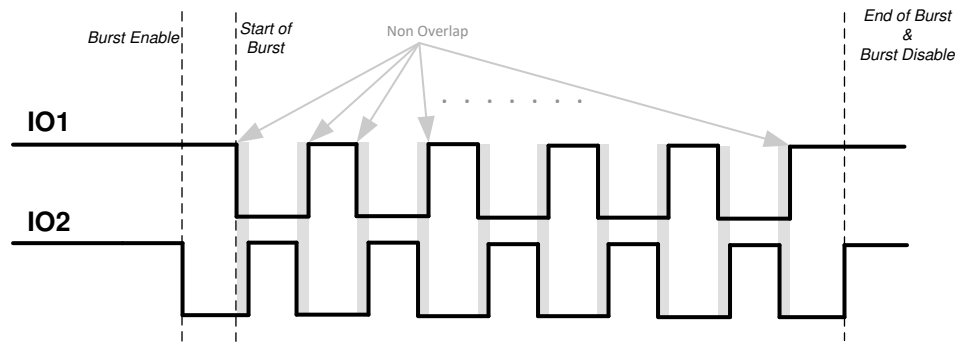

Figure 7-3. IO_MODE 2 Description
- **IO_MODE = 2:** In this mode both IO1 and IO2 are used to control OUTA and OUTB. The burst enable is triggered when either IO1 or IO2 transitions from high to low. Start of burst (OUTA and OUTB changing state) happens only at the next falling edge of IO1. Figure 7-3 shows the case where a high-to-low transition on IO2 is used to enable the burst. A burst is emulated when IO1 and IO2 are toggled in a non-overlapping sequence. After the start of burst, the state of OUTA and OUTB pins are determined by IO1 and IO2 pins. During a burst, if there is a condition where both IO1 and IO2 are high for more than half period of the internal clock f_{INT_CLK} (caused by differential delays due to PCB parasitics or MCU code), an end of burst and burst mode disable will be triggered. Any falling edge just after this condition will be ignored to toggle OUTA and OUTB as it would be considered as a new burst enable signal. A systematic condition of overlap can cause a continuous end of burst trigger such that OUTA and OUTB do not toggle even though IO1 and IO2 are toggling. TI recommends no overlap or minimum non-overlap between the IO1 and IO2 signals when measured at the pins. BURST_PULSE has no effect in this mode.